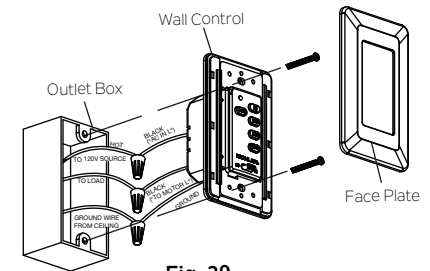

Fig. 29
Step 2. Place the wall control to the outlet box, connect the wires with wire connectors provided. (Fig. 29)
Step 3. Secure the wires connections and make sure there are no loose strands or connections. Put wire connections back inside outlet box and secure the wall control to outlet box with screws provided. Snug the face plate to wall control. (Fig. 29)